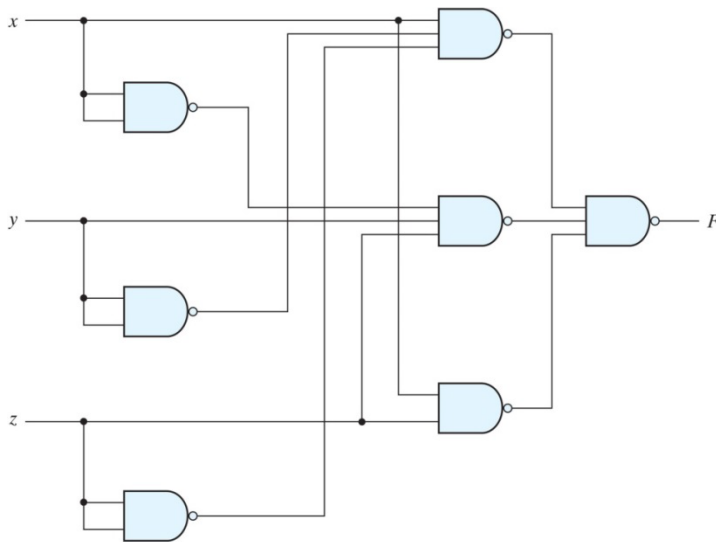

Fig. 7
**Experiment 3** Obtain the Boolean function of the circuit shown in Fig. 7 and simplify it, using postulates and theorems of Boolean algebra (or the map method). Use Proteus program to test both circuits; the original and the simplified ones. Show the test results to the Lab assistant.